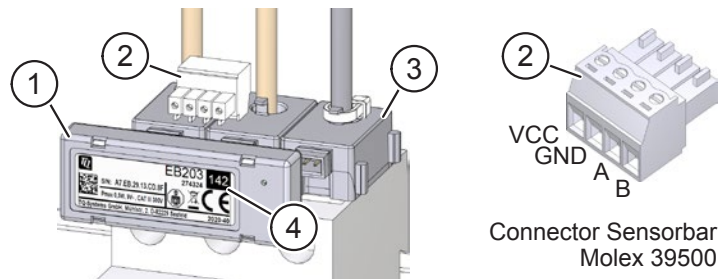

Fig. 5: Attach Sensorbar to current sensors
- ▶ Connect the Sensorbar and Energy Manager connectors to the standard cable 2466C. Fig. 4 / Fig. 5 show the wire assignment.
- ▶ Attach the Sensorbar (item 1 in Fig. 5) to the linked current sensors (item 3 in Fig. 5) and the Molex connector (item 2 in Fig. 5).
- ▶ Please note that all interconnected Sensorbars must have different addresses (item 4 in Fig. 5).